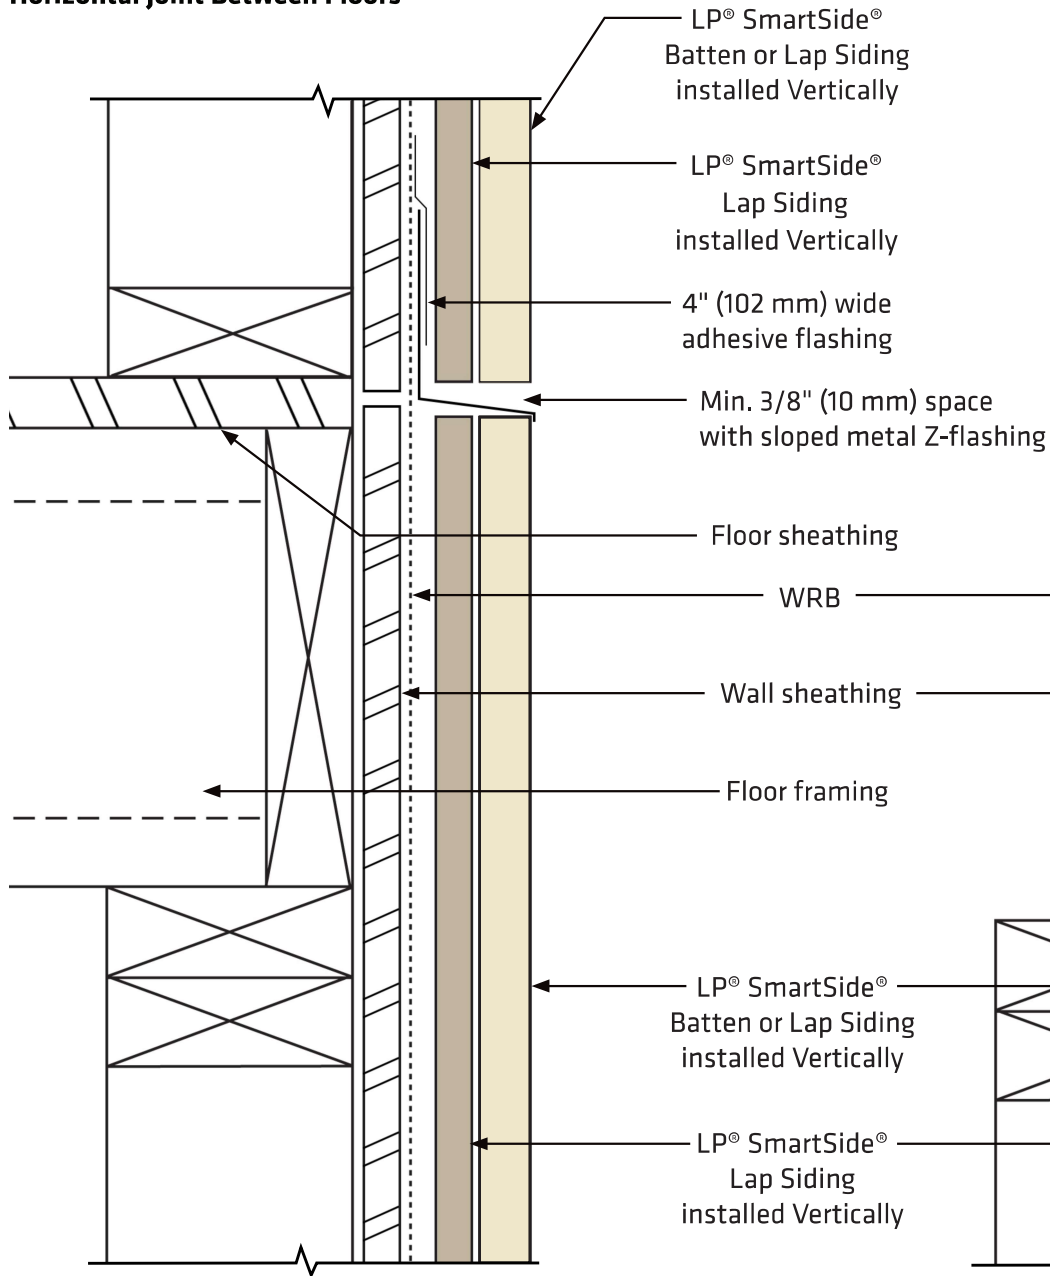

Figure 5a
- Lap Siding installed Vertically or Batten may only span one plate-to-plate. Due to expected plate shrinkage, each vertical application is not to span beyond one floor to ceiling distance, or one floor to top of gable distance. *(See Figure 5a & 5b)*
- **DO NOT bridge floors with Lap Siding installed Vertically or Battens.** *(See Figure 5a & 5b)*